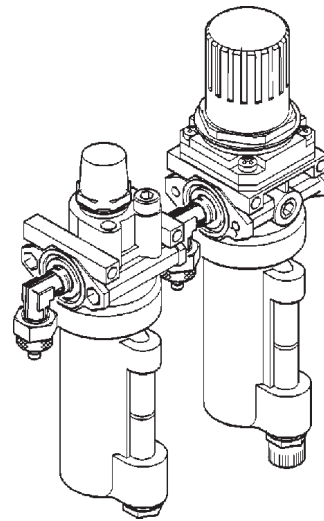

Figure 1.4-2
**Air Filter and Air Lubricator, (Fig.1.4-2)**